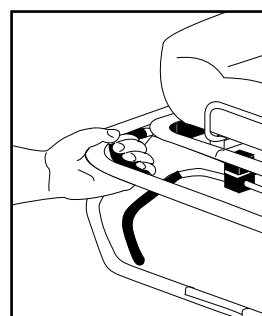
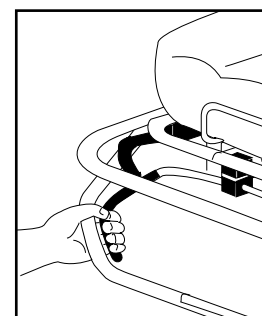
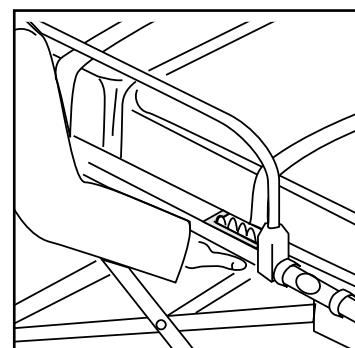

Figure 9 - Upper Control Handle
Figure 10 - Lower Control Handle
Figure 11 - Side Control Handle
- **Location:** There are three Lift-First control handles: an upper and a lower control handle at the cot foot end (Figure 9 and Figure 10), and a side control handle at the patient's right side of the cot (Figure 11).